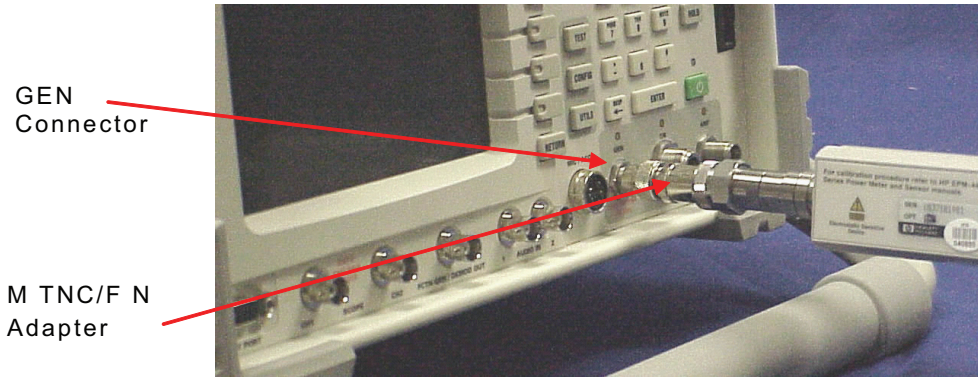

Fig. 4-9 GEN Port Calibration Setup
3.	Configure equipment. Refer to Fig. 4-9 as needed.